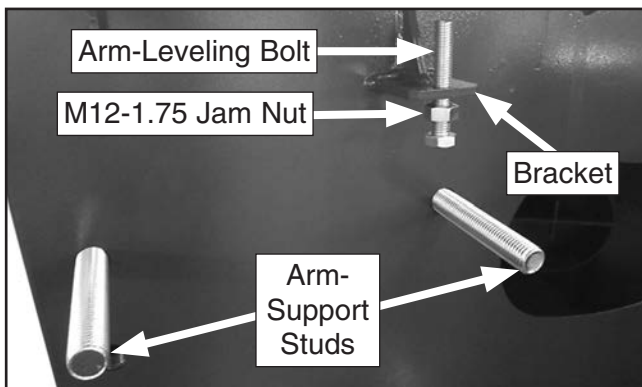
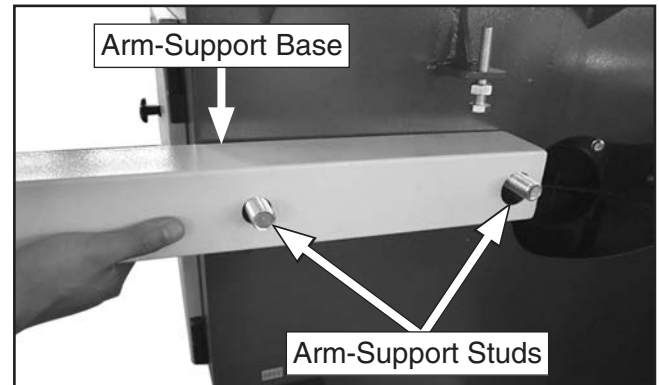

Figure 51. Arm-support studs installed in body and arm-leveling bolt installed in bracket.
Figure 52. Installing arm-support base.
48. Thread (1) M12-1.75 x 70 arm-leveling bolt with M12-1.75 jam nut into bracket connected to rear of machine body, as shown in **Figure 51**.
49. Remove hex nuts from pre-installed arm-support studs (see **Figure 51**), and install support-arm base onto arm-support studs, as shown in **Figure 52**.